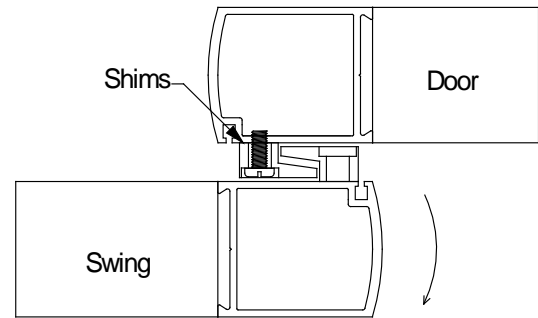

Figure 28a
3. Loosen the mounting screws and slide the interlocks closer to the edges of the stile. Slide shims under the interlocks as needed to ensure proper engagement. (See Figure 28a & 28b) It may be necessary to remove some brush from the backside of the interlock with a pair of scissors.